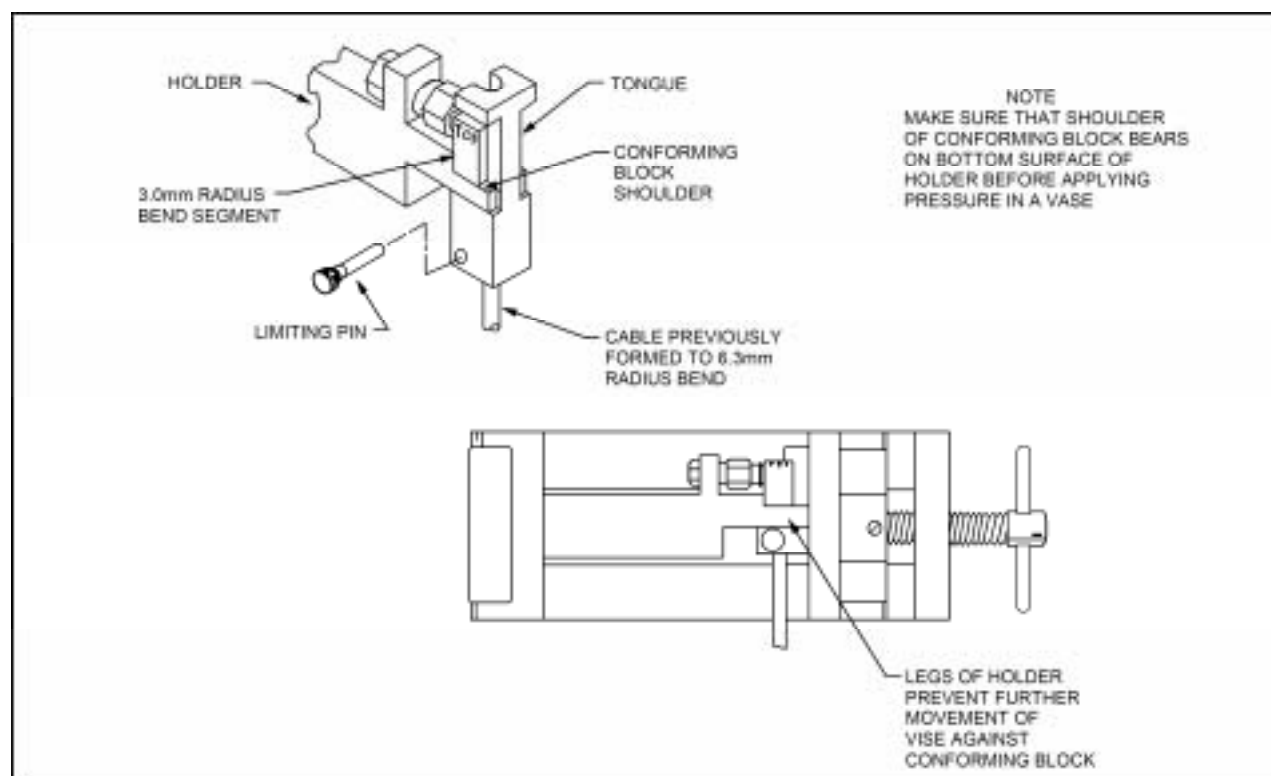

Figure 12-64 3.2mm Radius Bends on RG-402/U Cable
49. Refer to Figure 12-64, and proceed as follows:
- e. Place conforming block over cable with tongue of block in slot of holder (see Figure 12-64).